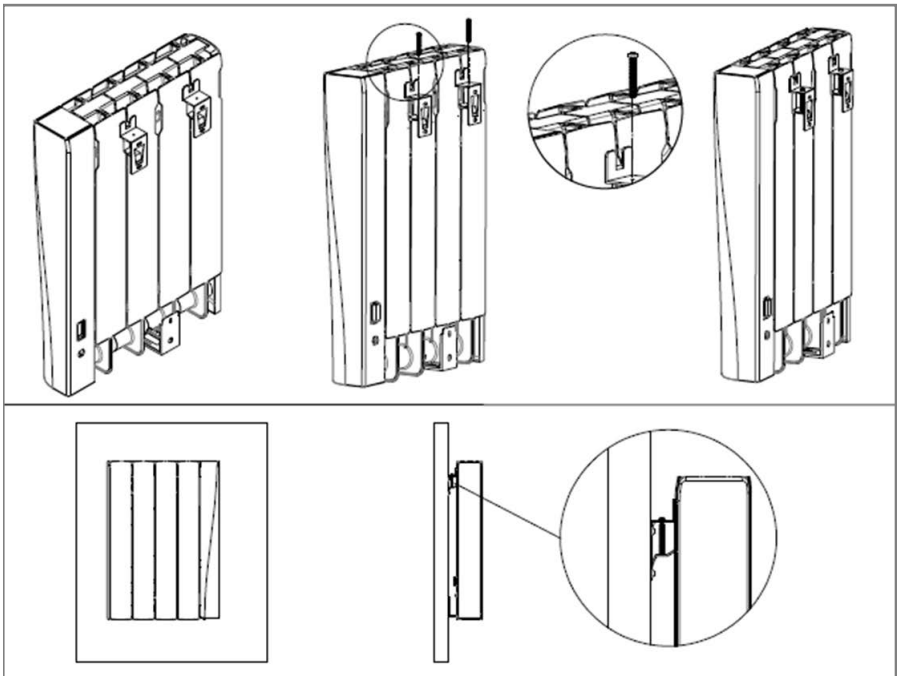

Figure 5 | Securing the radiator with locking screws
7. Secure the radiator to the upper brackets by inserting and tightening the locking screws into the brackets as in **Figure 5**.